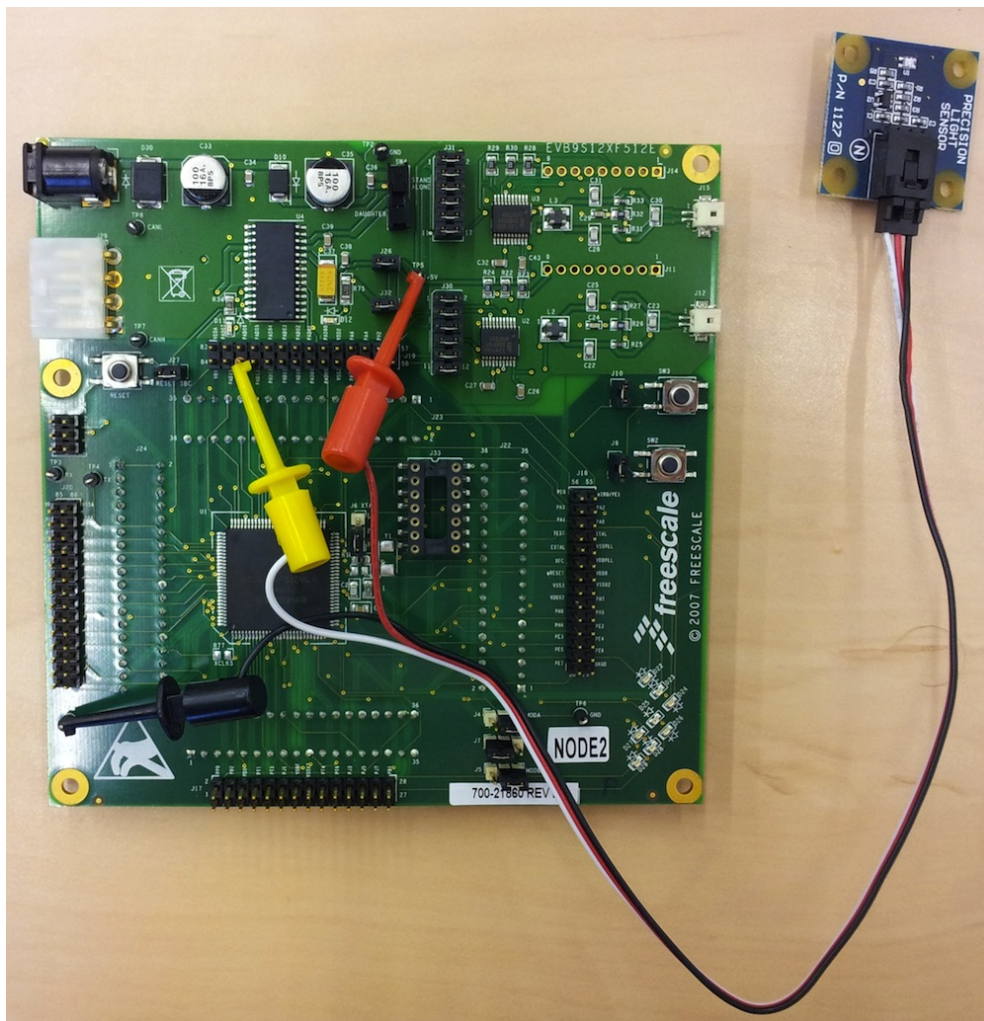

Figure 1: Connecting the light sensor to the EVB9S12XF512E board.
2. Connect the light sensor to the board, as indicated in Figure 1. Make sure to attach: